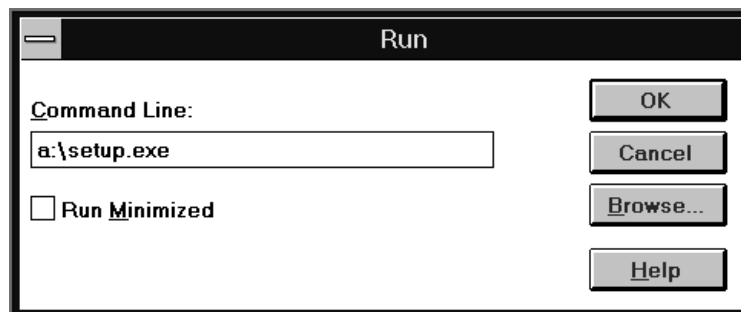

Figure 3. Run Dialog Box
1. Insert your TLS-PC disk into the A: drive or the B: drive. From the Windows Program Manager, pull down the **File** menu and click on **Run**. The Run dialog box appears. Type the letter of the drive, followed by:\setup.exe. For example, the disk is in drive **A** [Figure 3]. Click on the **OK** button.